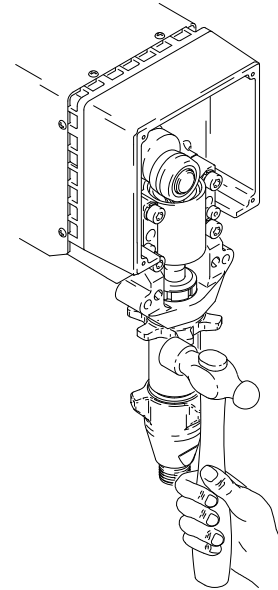

Fig. 22
4. Fig. 22. Loosen locknut by hitting firmly with a 20 oz (maximum) hammer. Unscrew pump.